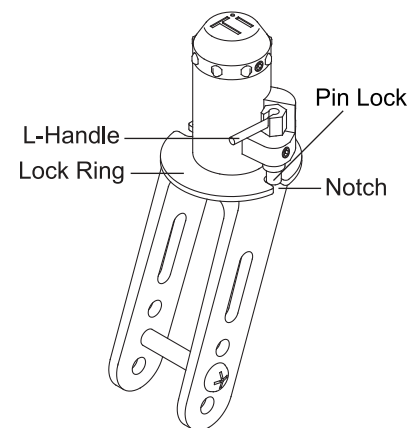

Figure 89
1. Rotate the front caster until either notch on the lock ring is directly beneath the pin lock. See Figure 89.